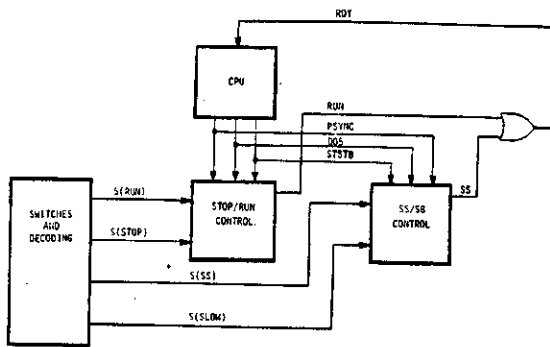

FIGURE 3. DISPLAY/CONTROL LOGIC READY LINE CONTROL CIRCUITRY
Figure 3 lists LEVEL, the general interrupt service routine, and BACK, the general return routine. LEVEL completes the saving of registers, pushes the current status of the VI board (CLMASK) and sets the VI board up for the new level. Note that at this time, all previous context is pushed on the stack and that interrupts may now be enabled. The ';;;' notation in the remarks field indicates instructions for which interrupts are masked off.
In Figure 3, the four additional instructions have been marked. They simply store a '1' at location X'8000' upon entry to LEVEL and set X'8000' to '0' upon exiting BACK.
2. The outputs from the RUN, STOP, SINGLE STEP and SLOW switches go in pairs to similar circuits whose outputs (RUN and SS) control the RDY line ([RDY] = [RUN] OR [SS]). (See Figure 3.) Both of these circuits consist basically of flip-flops which, when set, force the outputs (RUN, SS) high and, when reset, force the outputs low.